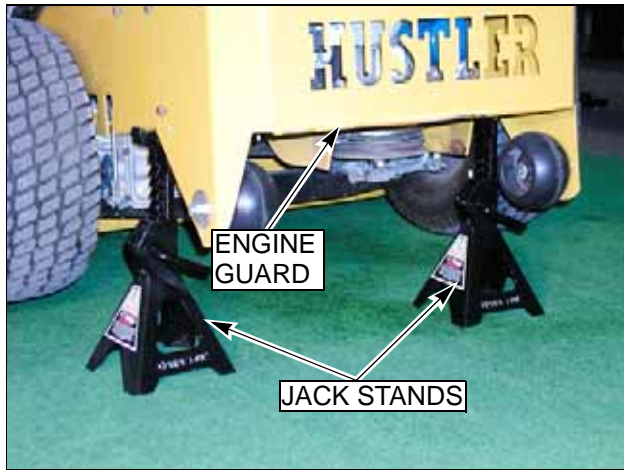

FIG. 13
1. Park the unit on a flat surface, raise the rear of the mower and block with certified jack stands (FIG. 13). With the park brakes set, start the engine. Once the engine is started, if the transmissions whine while the park brake is engaged, then neutral needs to be reset. Turn off the engine.